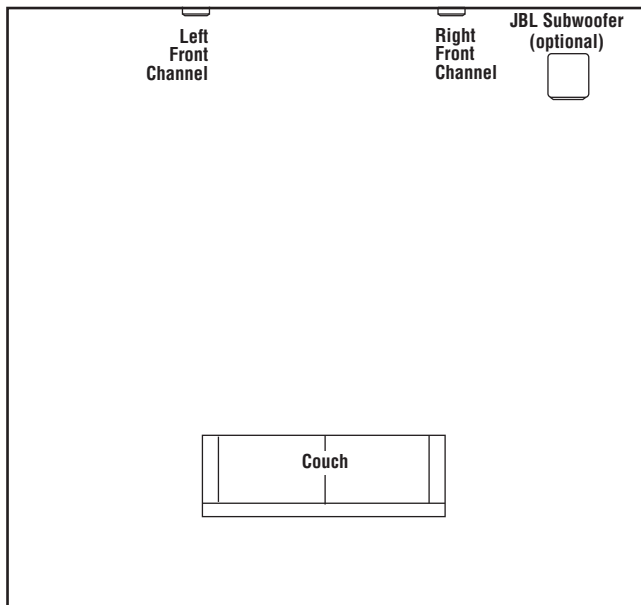

Figure 1.
**NOTE:** Figures 1, 2 and 3 show recommended speaker locations. You may also follow these general placement suggestions when installing the speakers in the ceiling.
Before deciding where to place your speakers, survey your room and think about placement, keeping the following points in mind, and using Figure 1, on previous page, as a guide: